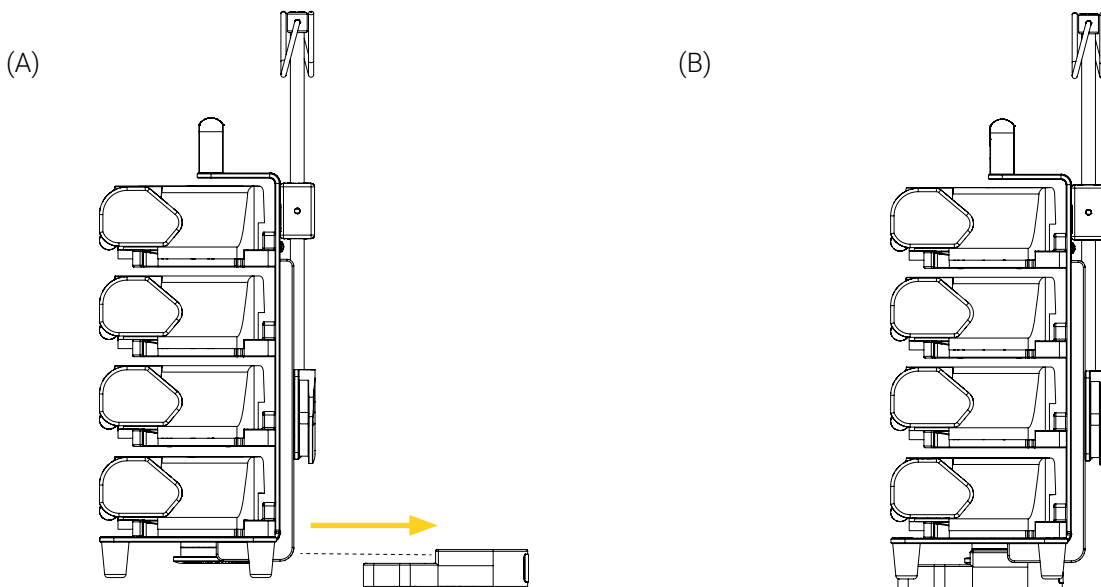
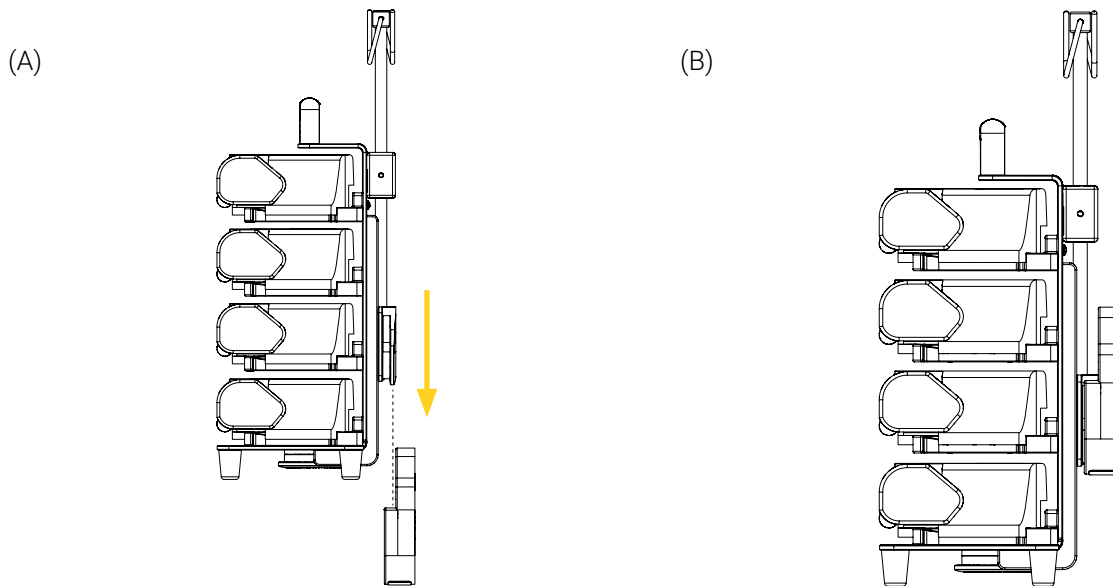

Figure 10: Installing the Bracket Pro Serie 80 - FL4 with a horizontal micro disc in the Micro Base
Figure 11: Installing the Bracket Pro Serie 80 - FL4 with a vertical micro disc in the Micro Base
- Align and insert the micro disc of the support bracket horizontally (Figure 10) or vertically (Figure 11) in the Micro Base, paying close attention not to wedge the cables of the pumps or accessory cables.